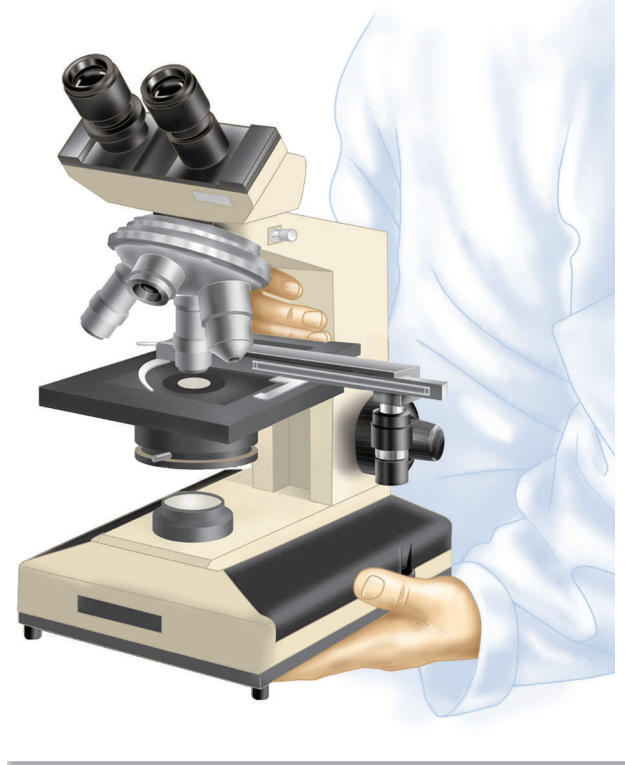

Figure 1.1 The microscope should be held firmly with both hands while being carried.
**Transport** When carrying your microscope from one part of the room to another, use both hands to hold the instrument, as illustrated in figure 1.1. If it is carried with only one hand and allowed to dangle at your side, there is always the danger of collision with furniture or some other object. And, *under no circumstances should one attempt to carry two microscopes at one time.*